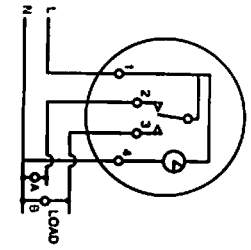

Fig. 4
- Strip insulation back 8mm from end of wire to ensure satisfactory connection with terminals. Connect fixed wiring to switch base. See Fig. 4, page 10, for the wiring diagram appropriate to your time switch model number.